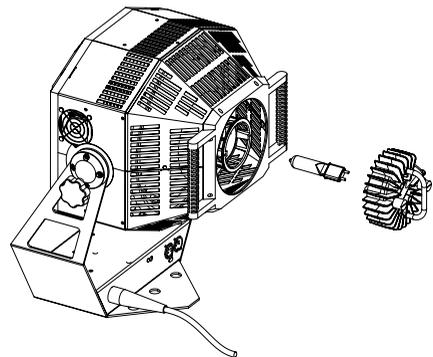

Figure B-1 Removing the lamp
4. Gently remove the socket housing from the reflector mount, exposing the lamp as shown in Figure B-1.